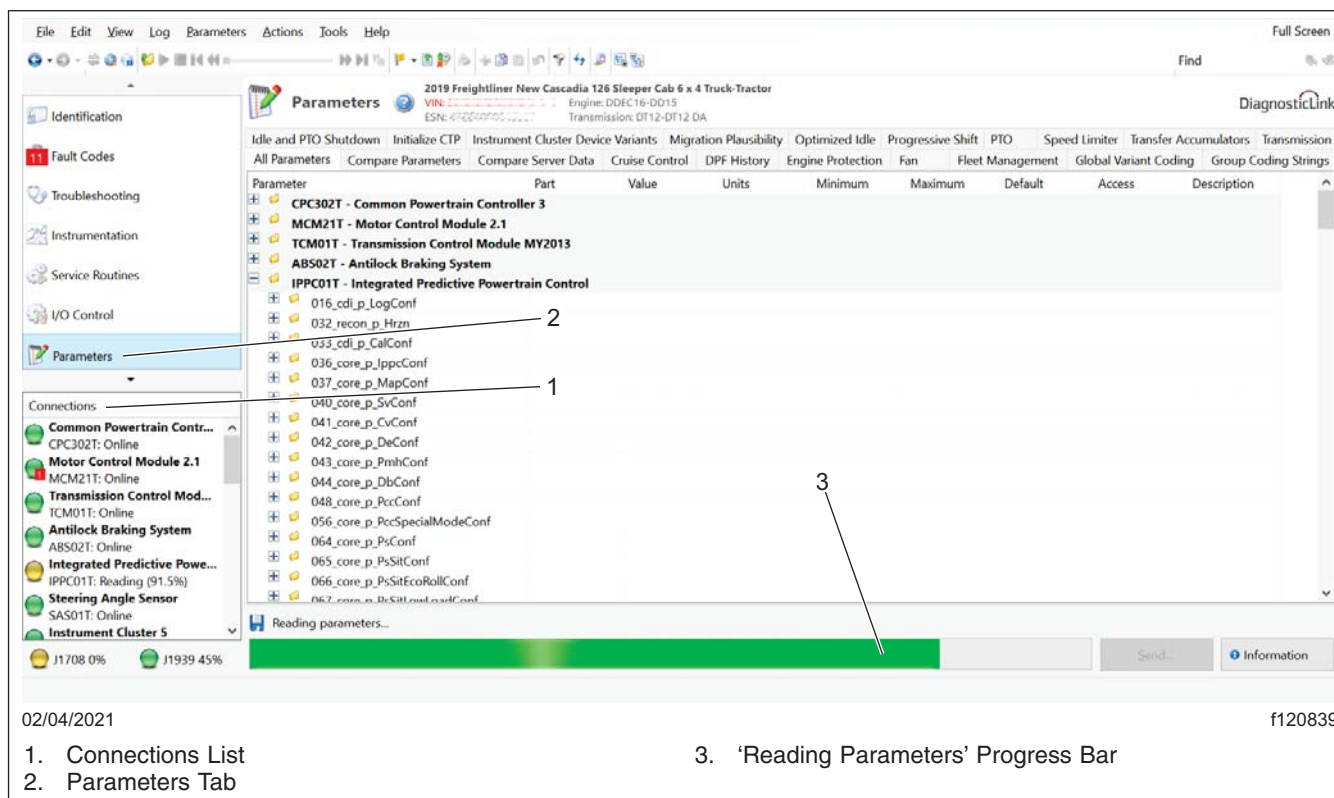

Fig. 3, Connecting Default ECUs and Reading Vehicle Parameters in DiagnosticLink
6. Open the 'Parameters' tab, and allow the parameters to be read completely by DiagnosticLink, as indicated by the status bar at the bottom of the screen. See Fig. 3.